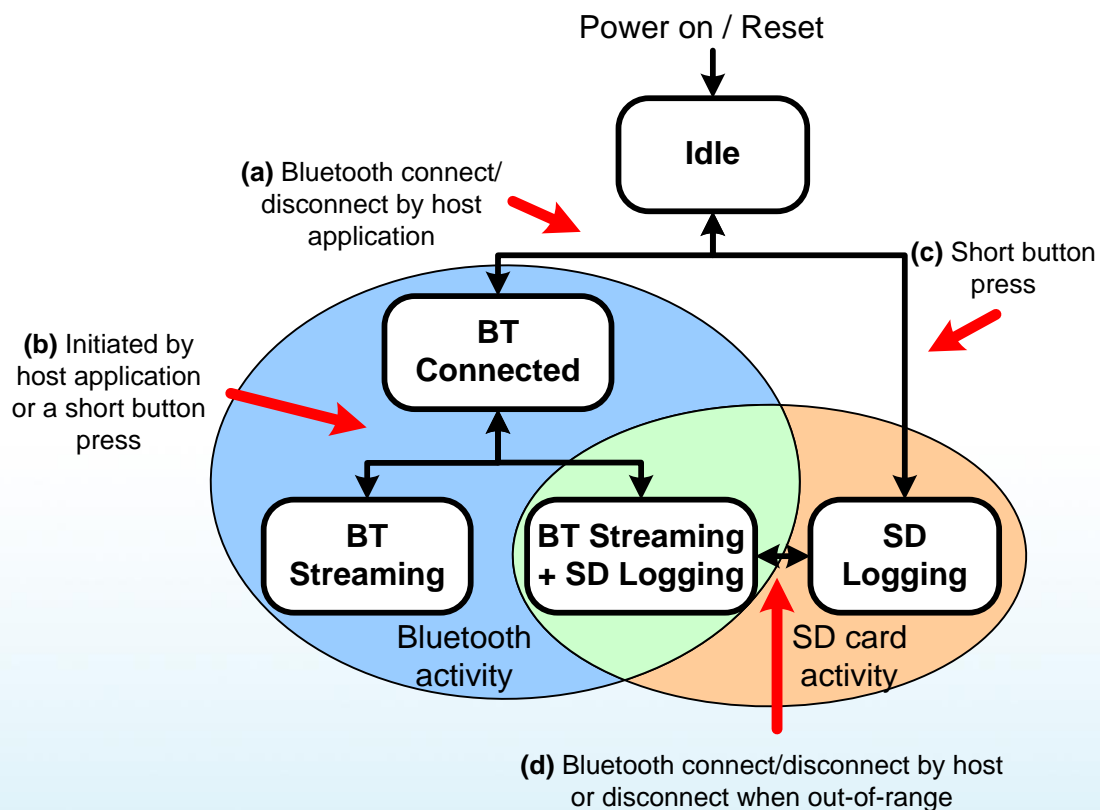

Figure 2-1 LogAndStream firmware operational hierarchy.
- Path (b): The host application (e.g., *ShimmerCapture*) allows the user to fully configure the *Shimmer3* and choose between either *BT Streaming* or *BT Streaming + SD Logging* recording modes. Alternatively, the short button press action can be used to start or stop *BT Streaming + SD Logging* mode from the *initial BT Connected* branch shown in Figure 2-1.